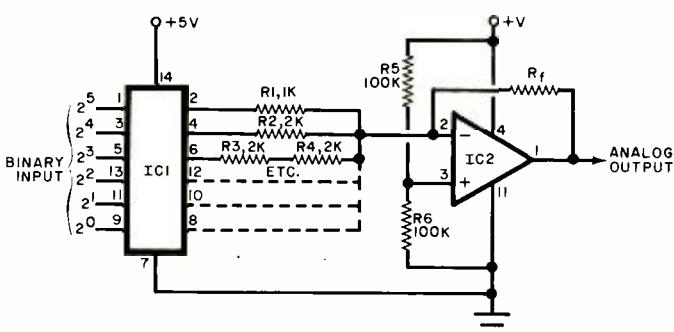

Fig. 6. Digital/analog converter circuit.
Recognizing that many of today's hobbyists are working with digital projects, reader Robert L. Schuman (R.R. #2, Winthrop, IA 50682) has suggested the circuit given in Fig. 6 as an inexpensive solution for those requiring a simple digital-to-analog (D/A) converter. Using only two IC's, a hex inverter (IC1) and an operational amplifier (IC2), the circuit accepts digital binary input pulses and converts these to an equivalent analog signal. In operation, the actual conversion process takes place in a weighted resistive divider network ( $R_1$ ,  $R_2$ ,  $R_3$ ,  $R_4$ , etc.) connected to the hex inverter's output terminals and which, in turn, becomes part of the op amp's inverting input feedback/bias circuit. The output resistance for each binary digit from  $2^0$  (32) to  $2^n$  (1) is doubled in value so that the summed resistive output connected to the op amp is inversely proportional to the input binary signal, thereby insuring that the op amp's output is directly proportional to the original binary number.